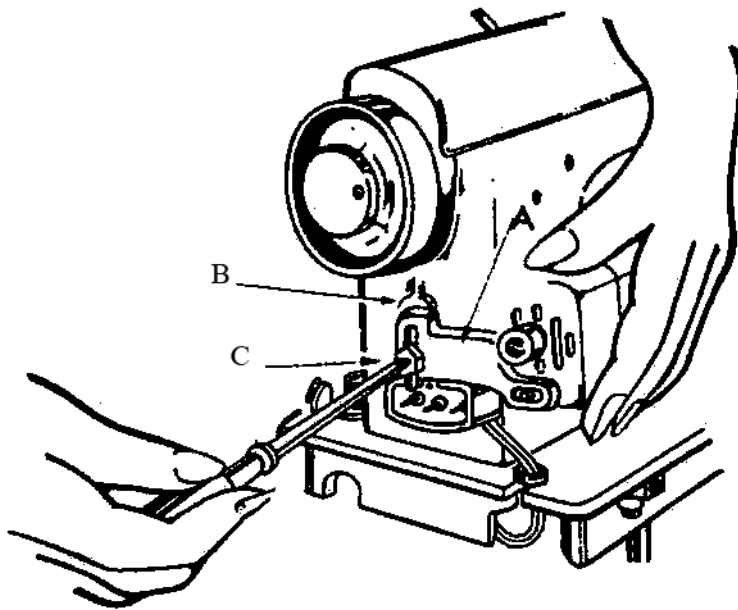

Fig 1.
Then insert the screw (C), and after shifting the motor upward as far as it will go, tighten the screw. (Fig. 1)